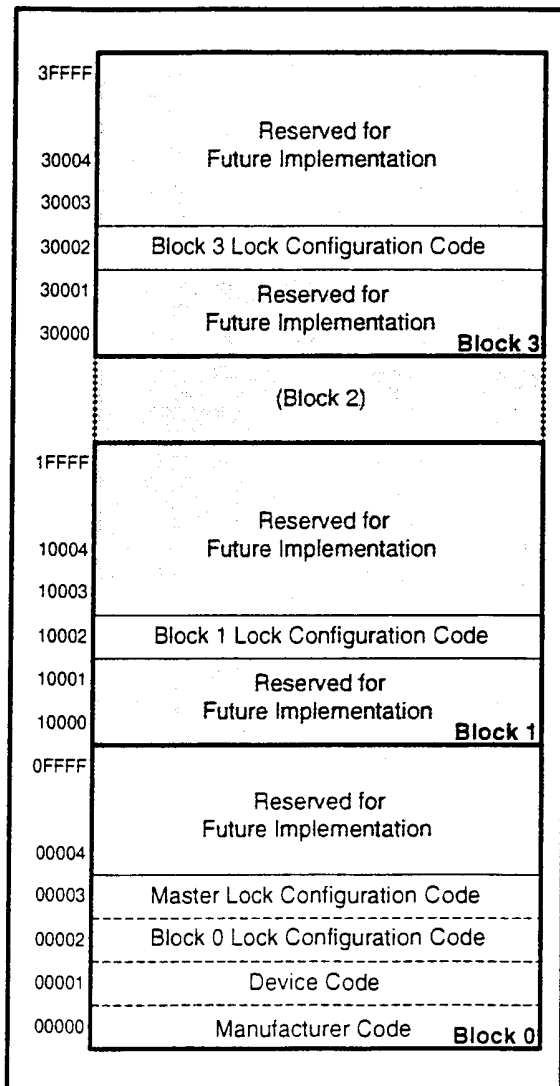

Figure 6. Device Identifier Code Memory Map
The read identifier codes operation outputs the manufacturer code, device code, block lock configuration codes for each block, and the master lock configuration code (see Figure 6). Using the manufacturer and device codes, the system CPU can automatically match the device with its proper algorithms. The block lock and master lock configuration codes identify locked and unlocked blocks and master lock-bit setting.
IA=Identifier Code Address: see Figure 6.
The identifier code operation is initiated by writing the Read Identifier Codes command. Following the command write, read cycles from addresses shown in Figure 6 retrieve the manufacturer, device, block lock configuration and master lock configuration codes (see Table 5 for identifier code values). To terminate the operation, write another valid command. Like the Read Array command, the Read Identifier Codes command functions independently of the V_{PP} voltage and $RP\#$ can be V_{IH} or V_{HH} . Following the Read Identifier Codes command, the following information can be read:
1. X selects the specific block lock configuration code to be read. See Figure 6 for the device identifier code memory map.